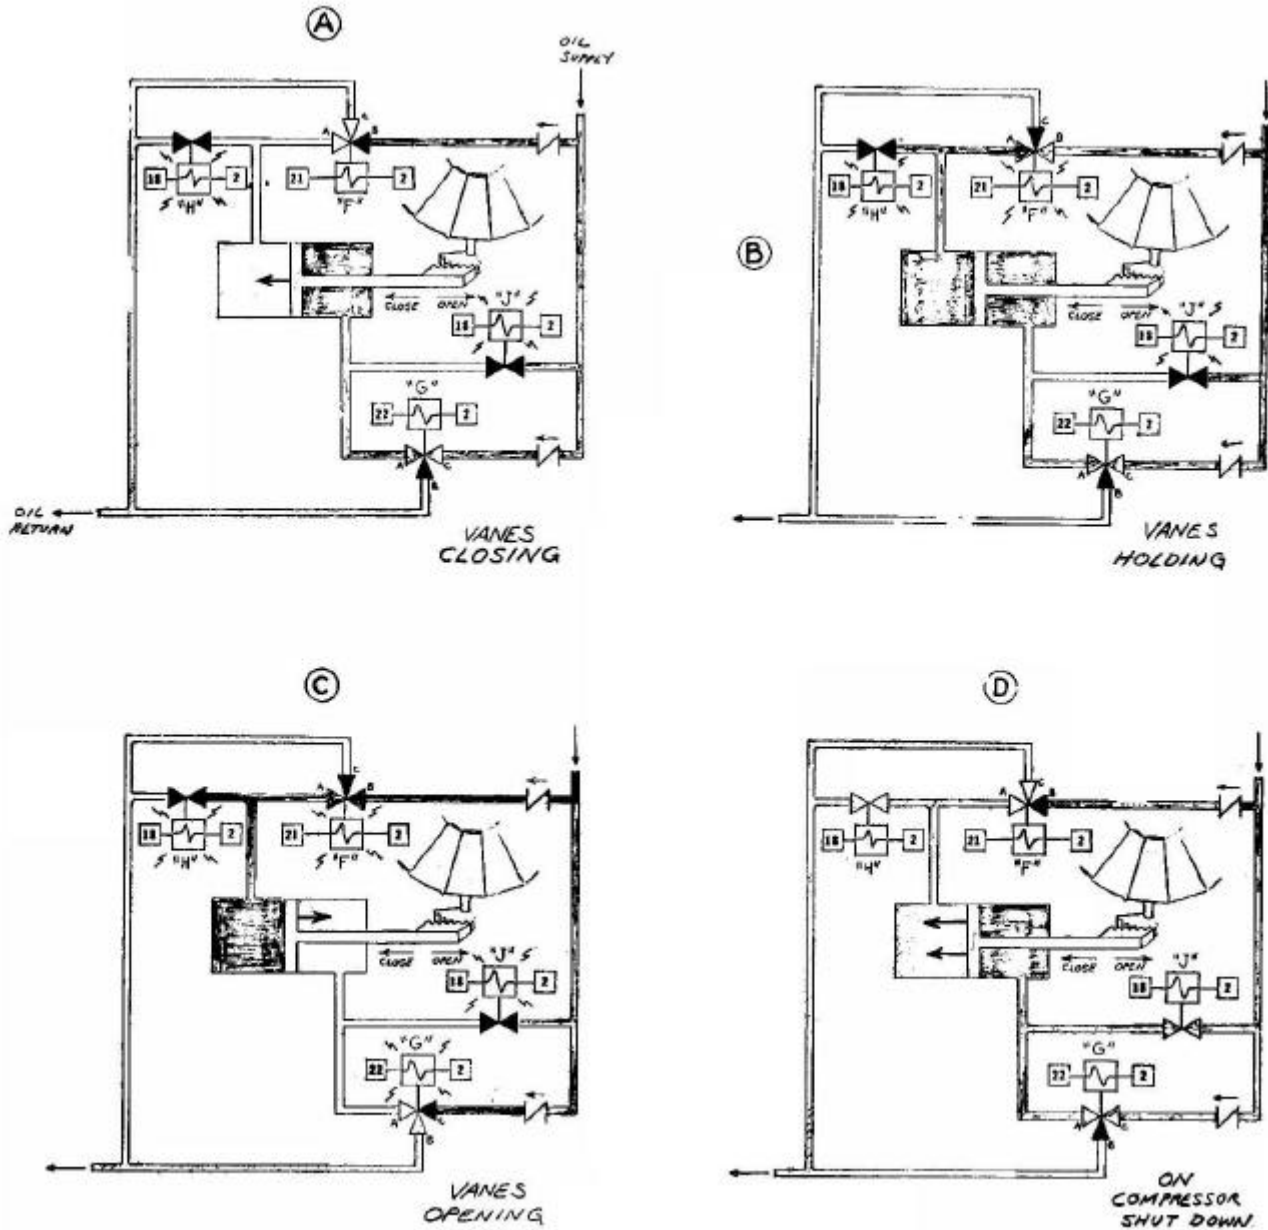

FIGURE 1
Normal operation of the 19C & 17CA hydraulic vane control motor is shown in Figure 1, Page 4. If water temperature is low (Figure 1-A), neither the Form "F" nor the Form "G" solenoid energizes. Oil pressure is exerted on the right side\* of the piston, as shown by the dark areas in the figure, causing the vanes to close. If water temperature is correct (Figure 1-B), solenoid "F" energizes, enabling pressure to be felt on both sides of the piston, holding the vanes in a set position. If water temperature is high (Figure 1-C), both "F" and "G" solenoids energize, allowing pressure to be felt on the left side of the piston and providing a drain from the right side, thereby opening the vanes.
On R-114 machines there are additional solenoids ("H" and "J") provided to quickly close the vanes when the compressor is shut down as shown in Figure 1-D.
3. LEAKY CHECK VALVE – If the check valve in the oil supply line to the Form “F” valve leaks, the vanes will tend to close instead of remaining stationary. Normally, in the hold position, the oil pressure is the same on both sides of the piston as shown in Figure 1-B. However, the left side of the piston also has the pressure exerted by the gas across the prewhirl vanes. In the hold position, therefore, there is always a higher pressure in the left side of the piston than in the right side. If the check valve leaks, the oil will flow from the left side of the piston through the Form “F” solenoid valve, through the leaky check valve, cross over and enter the other check valve at the entrance to the Form “G” solenoid valve flowing in the free flow direction. It will then pass through the Form “G” solenoid valve and over into the right side of the piston. In this way the oil will be transferred from the left side of the piston to the right side of the piston and the piston will move to the closed position.
NOTE: "H" and "J" Valves are only present in R-114 machines. They provide for quick closing of the vanes on compressor shutdowns as shown in Figure 1-D, above.